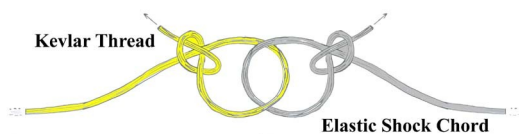

Figure 8
- **Step 19** Pull the Kevlar thread back through the mount into the body tube, and then out the front end of the body tube. Tie a slip knot in the free end of the Kevlar thread. As shown in Fig. 8 above, tie a similar slip knot in the free end of the elastic shock chord through the Kevlar knot, then pull the knots together tightly. Apply a drop